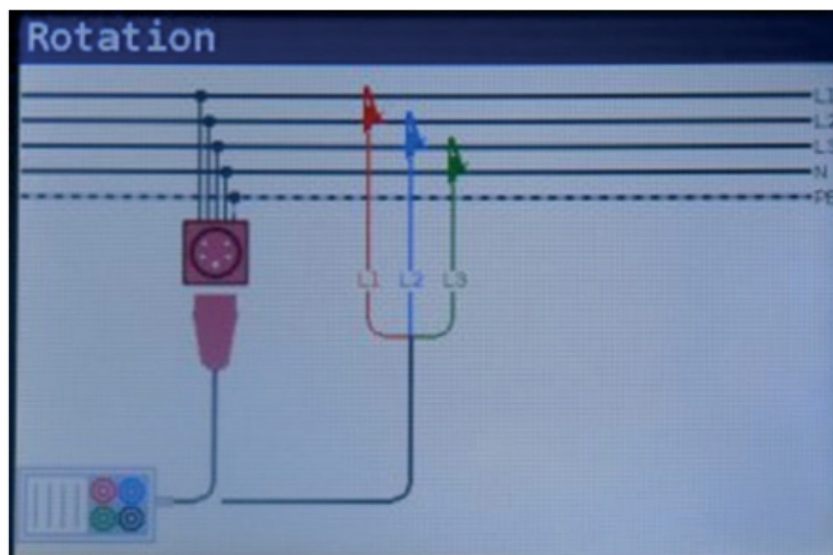

Figure 4-30: Connection of universal test cable and optional three phase cable
**Step 2** Connect test cable to the instrument and follow the connection diagram shown in figure 4.30 to test phase sequence.